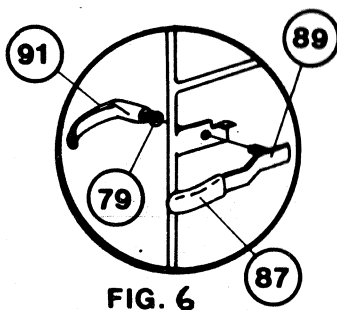

FIG. 6
15. Install door handles (No. 91 & No. 89) as illustrated in fig. 6. Tension of inside handle (No. 89) against striker plate may be adjusted by bending the handle.